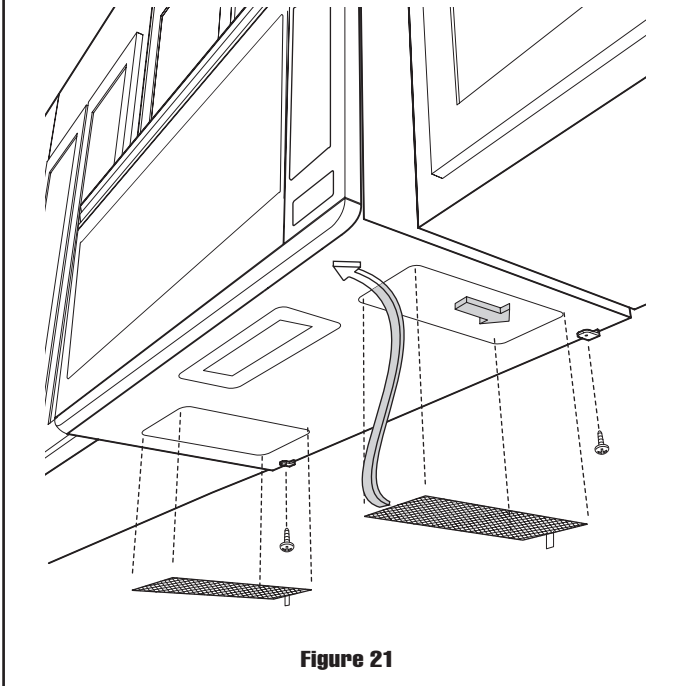

Figure 21
2. Use two Tapping Screws to secure the levers that are on the bottom of the oven. See Figure 21.